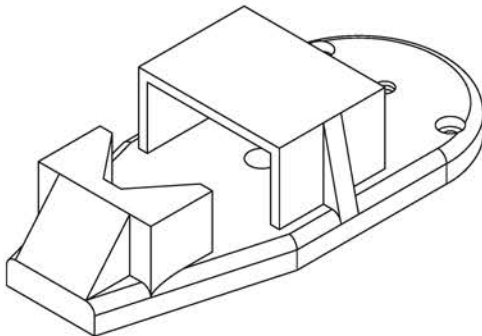
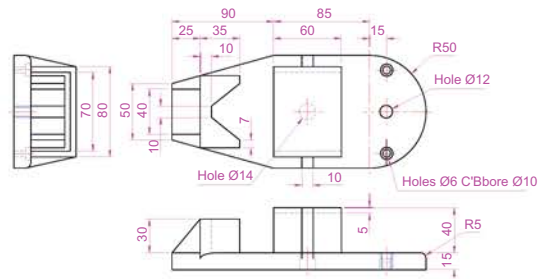

Fig. 8.32 Exercises 8 and 9
Fig. 8.33 Exercises 8 and 9
- 8. Construct a third angle projection of the component shown in the isometric drawing Fig. 8.32 and the three-view first angle projection Fig. 8.33.
- 9. Construct the isometric drawing shown in Fig. 8.32 working to the dimensions given in Fig. 8.33.